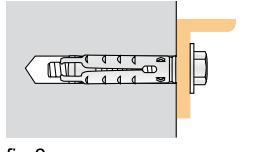

fig.8
- **Pre-positioned fixings** (fig.8): the anchor is inserted in the base material before positioning the object to be fixed and then is tightened with a screw. The hole in the object to be fixed is normally smaller than the hole in the base material.